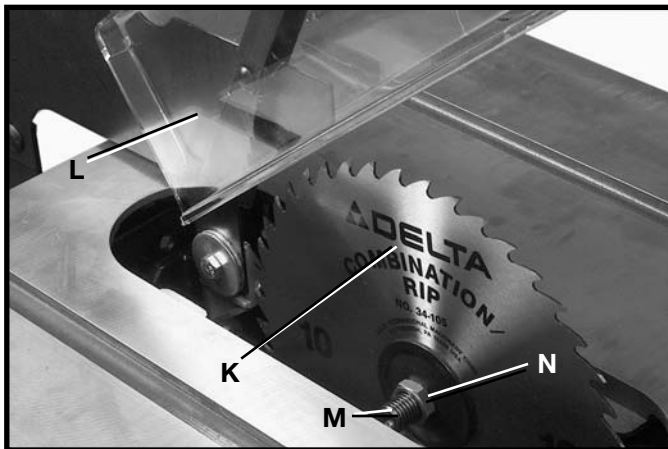

Fig. 33
9. With the blade guard (L) Fig. 33, in the raised position, assemble the saw blade as shown at (K) on the saw arbor (M) and tighten arbor nut (N) with two 7/8" arbor wrenches supplied.